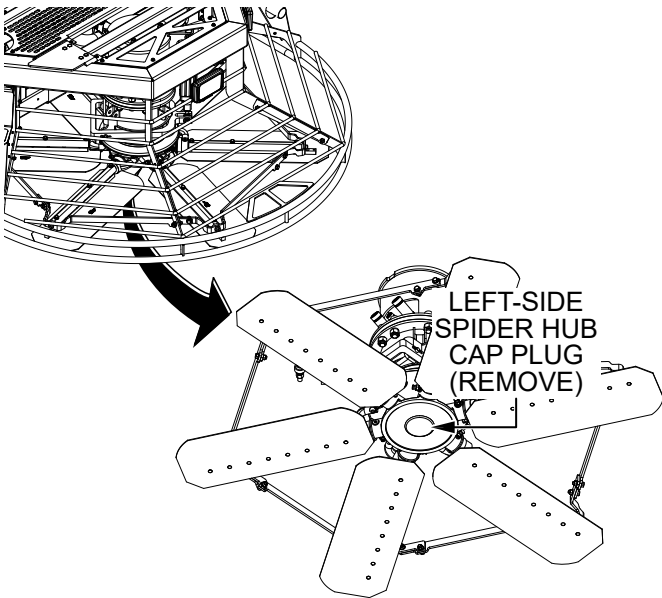

Figure 72. Remove Left-Side Spider Hub Cap Plug
1. Remove the left-side spider hub cap plug (Figure 72) and set it aside.